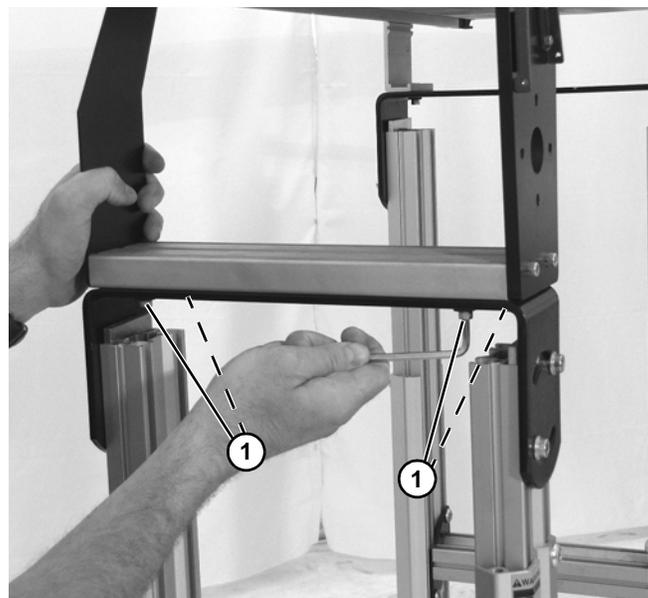

Figure 19
14. Mount assembly to support structure with four hard washers and screws (Figure 19, item 1). Tighten to 80 in-lb (9 Nm).